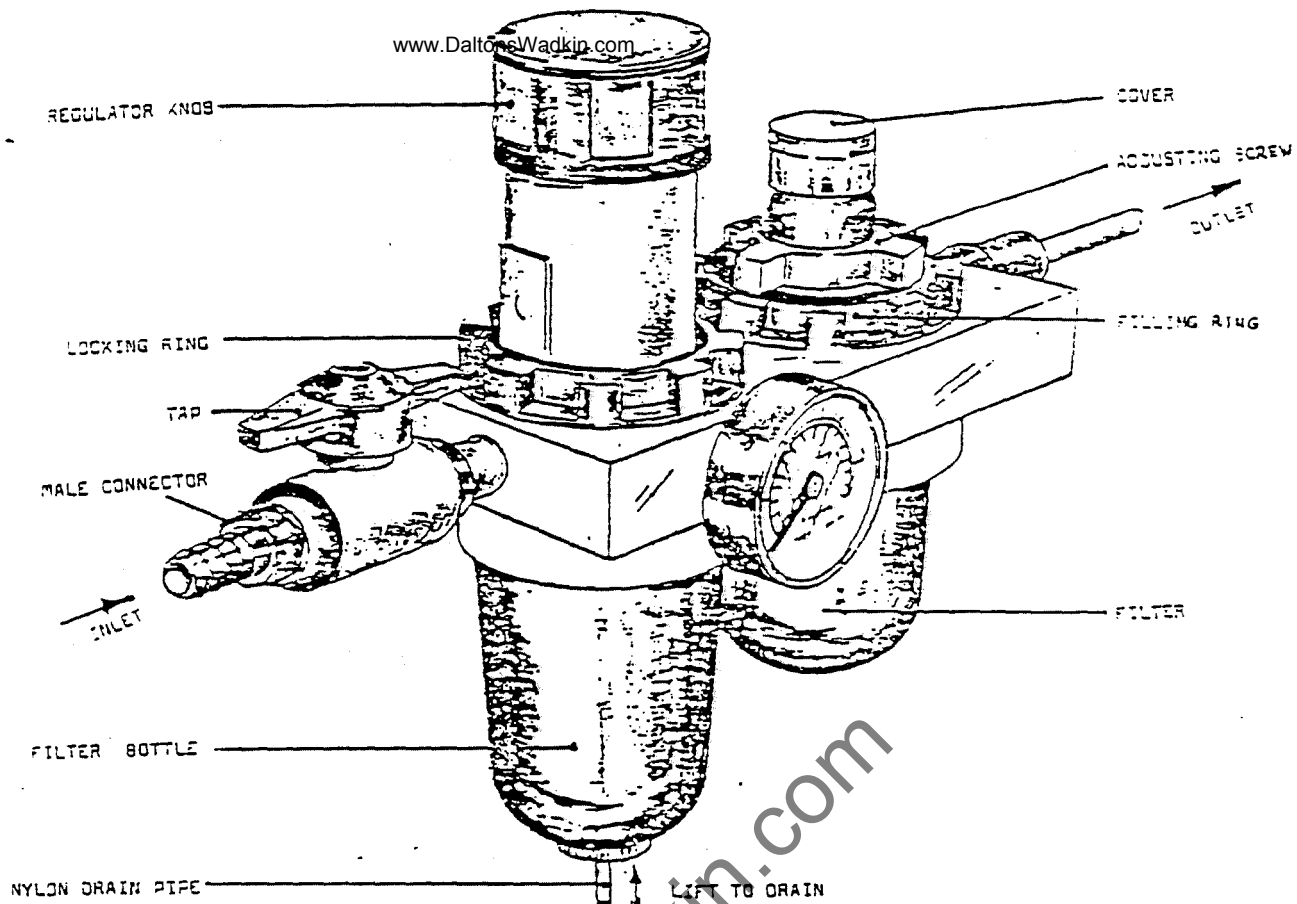

FIG. 8a AIR FILTER/LUBRICATOR. TYPE 8-10-53/L-10-MF
3.4 AIR SERVICE UNIT (See Fig. 8a)